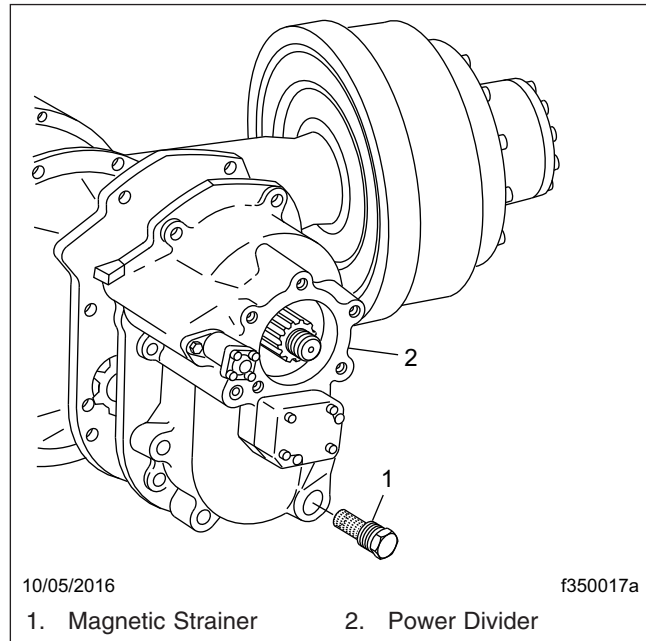

Fig. 8, Dana Spicer Tandem Drive Axle Magnetic Strainer
4. At each axle oil change, remove and clean the magnetic strainer, if equipped. See **Fig. 8**.